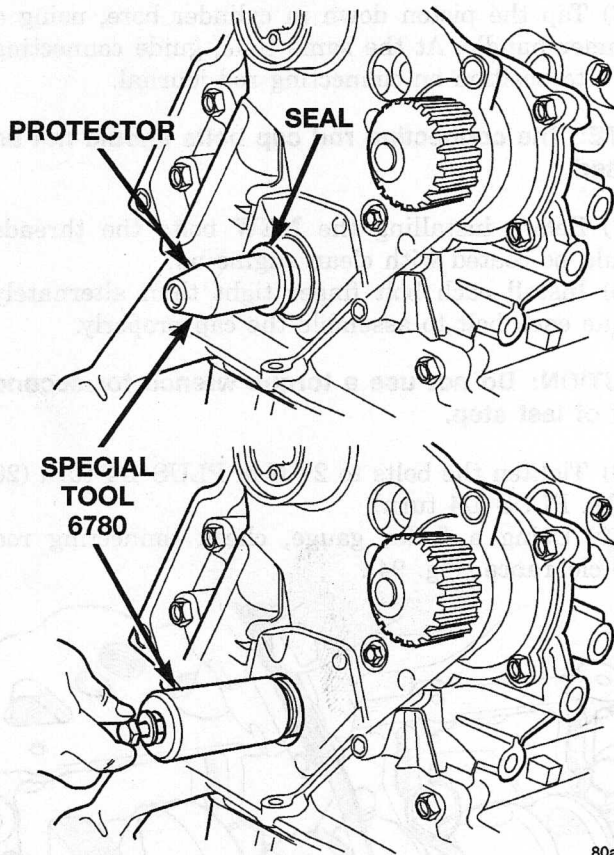

Fig. 88 Front Crankshaft Seal-Installation
- (5) Install new front crankshaft seal using Special Tool 6780 (Fig. 88).